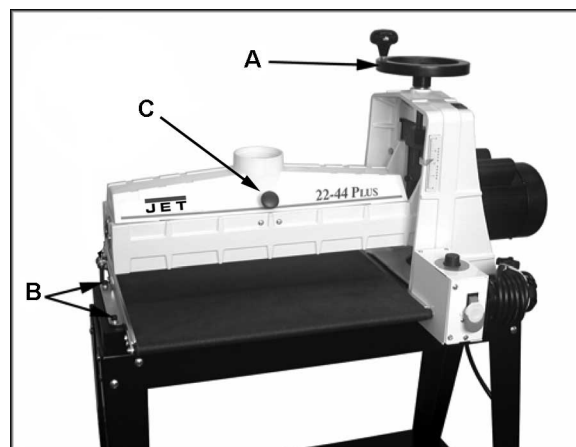

Figure 5
- 1. Raise the drum as far as it will go by turning the handwheel (A, Figure 5) clockwise.
- 3. Secure the conveyor in place with four 5/16"-18 x 3/4" socket head cap screws (B, Figure 5), four 5/16" lock washers and four 5/16" flat washers.
To open the dust cover, push in on the knob (C, Figure 5) and lift. The latch can be adjusted using the screw behind it.